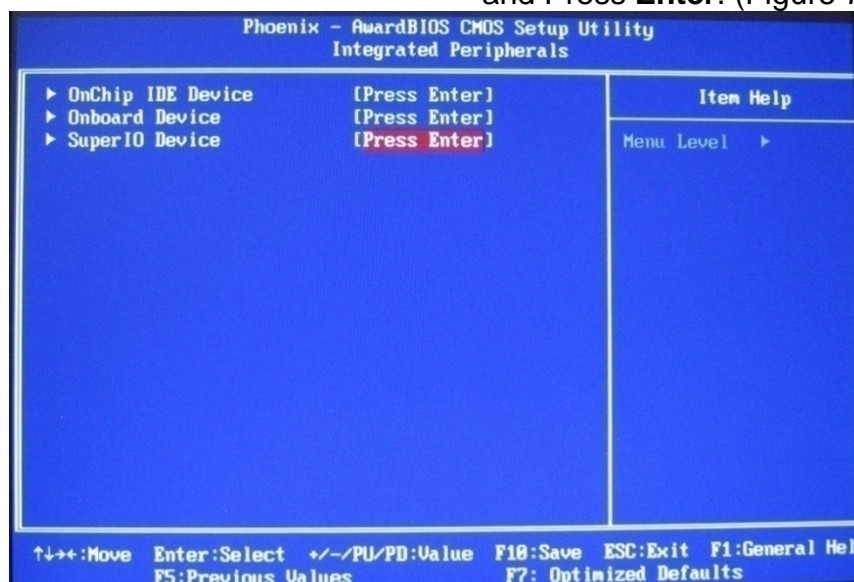

Figure 7-30 Super IO Device
20. On the **Integrated Peripherals** screen. Scroll down and select **Super IO Device** and Press **Enter**. (Figure 7-30).